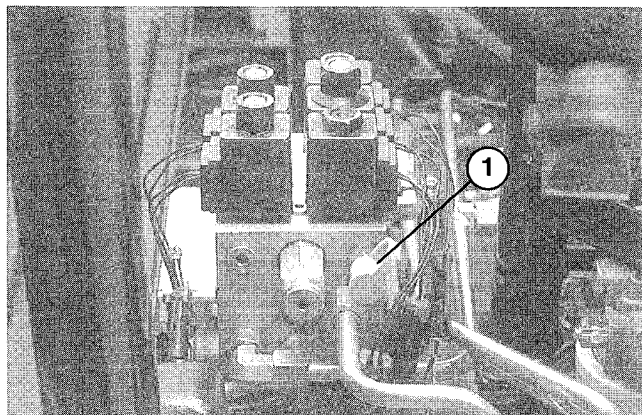

Figure 54
2. Test Port #2 (Fig. 54) is used to assist in trouble shooting the hydraulic circuit for the rear cutting units.